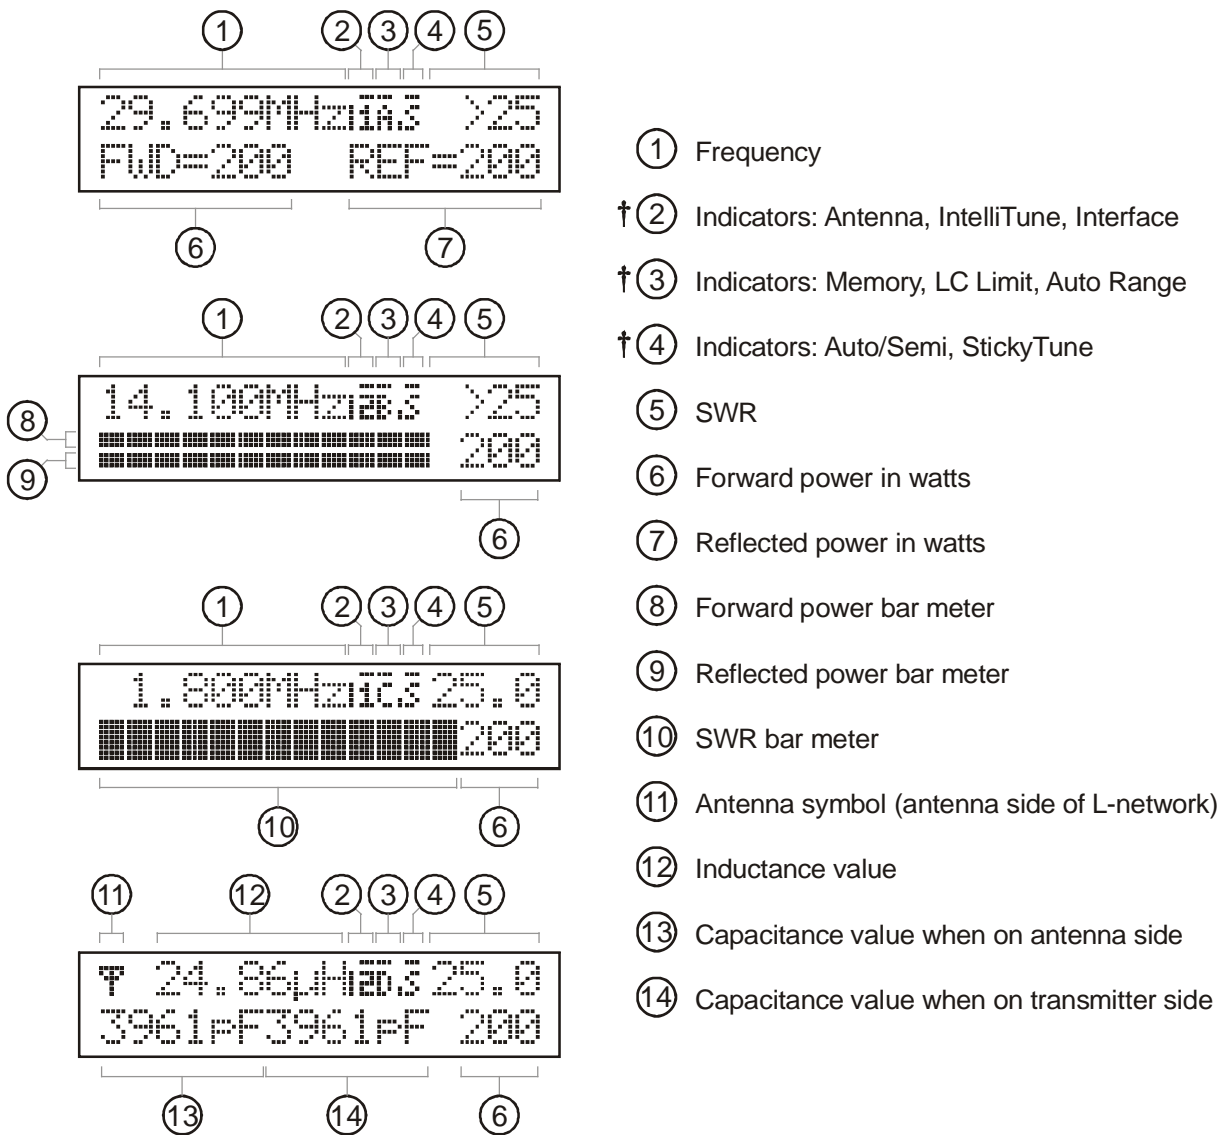
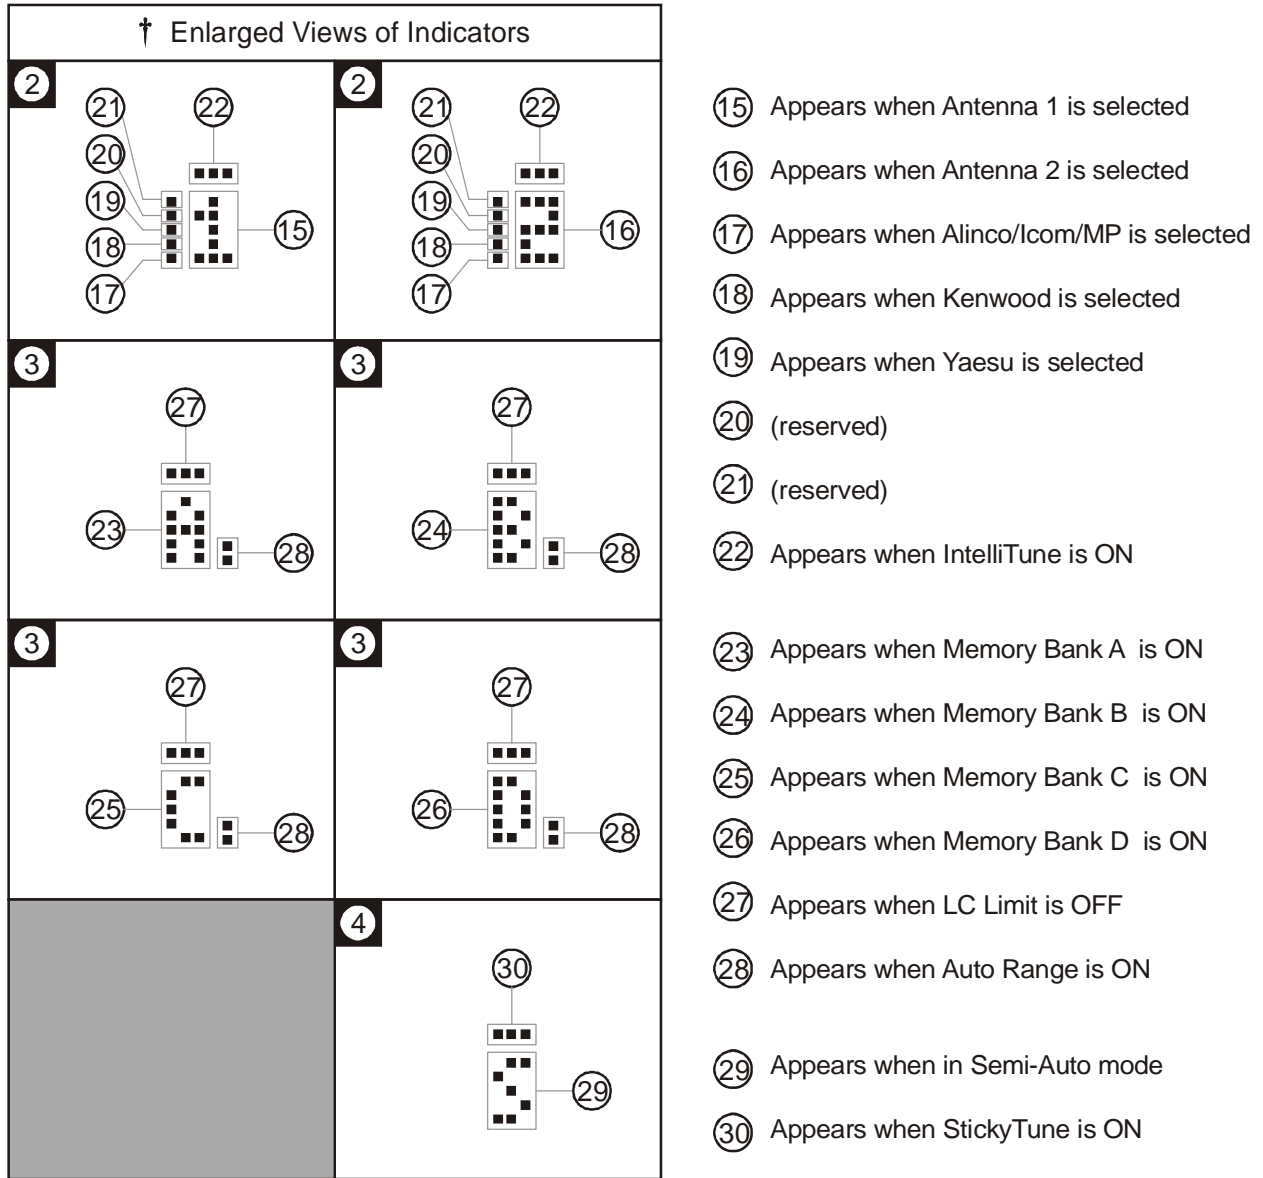

Figure 15. Main Mode Menus Display.
Figure 16. Tuner Indicators.
Pressing [TUNE] and [ANT] simultaneously toggles between automatic and semi-automatic tuning mode. In automatic mode, the tuning routine is automatically started when at least two watts of power is applied and the SWR is a preset amount above the preset target SWR. In semi-automatic mode, the tuning routine starts only when the [TUNE] button is pressed for 0.5 to 2 seconds. The Auto/Semi indicator on the main display indicates the selected mode. Refer to Figures 15 and 16 for the on-screen Auto/Semi indicator.
The main mode menus show various tuner settings and status. There are four main mode menus arranged in a “wrap-around” structure. When powered on, tuner operation starts with the main menu that was last used. Within each main menu, press the [MODE] button briefly to view the next main menu. Press and hold the [MODE] button for two seconds to enter the setup mode (see below). Various tuner indicators are shown on all four main menus: Antenna 1/2, IntelliTune™, Radio Interface, Memory, LC Limit, Auto Range, Auto/Semi, and StickyTune™. Refer to Figures 15 and 16 for details on the displayed information.
The power meter can be set to auto range. Auto range automatically sets the meter scale according to the input RF power to the tuner. Forward power greater than 20 watts automatically sets the meter to the high power range. Forward power less than 15 watts automatically set the meter to the low power range. When auto range is on, a two-dot vertical segment appears on the on-screen tuner indicator. Refer to Figures 15 and 16 for the on-screen Auto Range indicator.
Various tuner indicators are shown on the main menus to indicate tuner status. Refer to Figures 15 and 16 for locations of these indicators. The number enclosed within () is the item number of Figure 16.
Allows you to select the meter scale range. In the 20 watts (low) range, the meter full scale is 20 watts (divide the power meter scale by 10). In the 200 watts (high) range, the meter full scale is 200 watts. Auto range automatically sets the meter scales according to the input RF power to the tuner. Forward power greater than 20 watts automatically sets the meter to the high power range. Forward power less than 15 watts automatically set the meter to the low power range. Refer to Figures 15 and 16 for the on-screen Auto Range indicator. Default is 200 watts range.
The memory resolution for non-amateur frequency bands between 160 and 10 meters is approximately 0.2 percent of the lower frequency of each band. There are over 2500 memory locations for each memory bank, and each antenna has four memory banks (A-D). Tuner settings are stored in memory separately for Antenna 1 and Antenna 2 (settings for single-wire antenna are stored as Antenna 1). This provides memory for up to eight different antennas. Refer to Figures 15 and 16 for the on-screen Memory indicator. Defaults are memory banks 1A and 2A ON.
Turns the *IntelliTune*[™] tuning algorithm on and off. When the tuner cannot find an appropriate setting in its memory, it begins its calculation function. It measures the complex impedance of the antenna (load) at the transmitting frequency, then it calculates the L/C components needed for a match. Then it fine-tunes the component values. If for any reason the tuner cannot calculate the load impedance, it proceeds to yet another method of calculation. If for any reason, this function can be turned off. Refer to Figures 15 and 16 for the on-screen *IntelliTune*[™] indicator. Default is ON.
The upper limits of inductance (L) and capacitance (C) are factory-limited according to frequency and maximum power rating; i.e., higher frequencies need less inductance and less capacitance when the L-network is properly tuned. Pressing [C-UP] and/or [L-UP] allows capacitance and inductance to be increased only to these limits. When a selected capacitance or inductance is higher than its allowed limit, and the frequency is changed, that selection is automatically reduced to the value of its limit. These limits are used to prevent matching of extreme load impedance outside the tuner’s specification, which may result in excess voltage and/or current across the tuner’s components. This setting is not stored in non-volatile memory and reverts back to the default when the tuner power is turned off. Refer to Figures 15 and 16 for the on-screen LC Limit indicator. Default is ON.